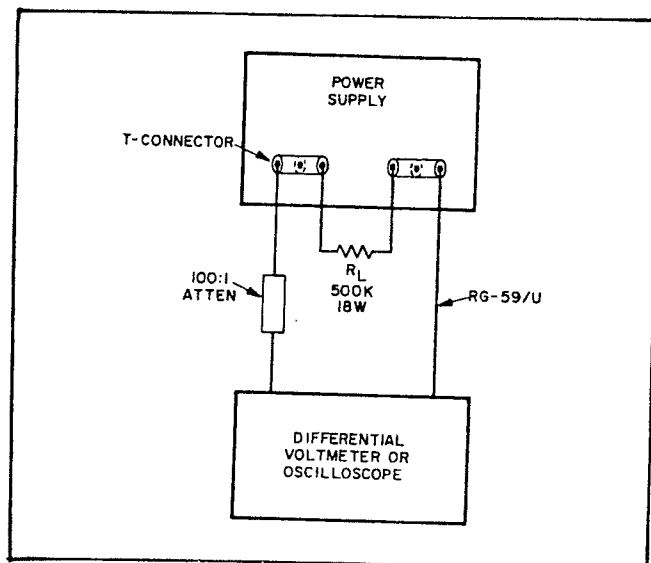

Figure 5-3. Line and Load Regulation, Test Setup
- a. Connect the differential voltmeter, load resistor, and the attenuator to the power supply as illustrated in Figure 5-3. Load resistance is 500K ohms, 18 watts.
- a. Connect differential voltmeter, load resistor and attenuator to the power supply as illustrated in Figure 5-3.
- Connect differential voltmeter, load resistor, and attenuator as illustrated in Figure 5-3.